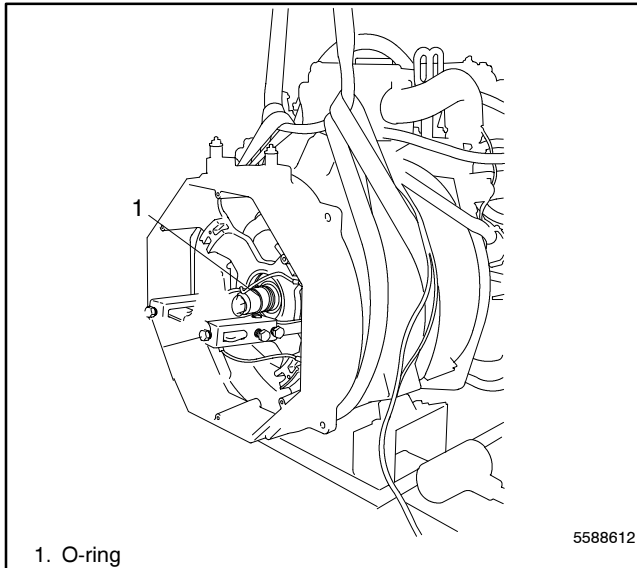

Figure 9-9 Stator Installation
4. Inspect the O-ring in the end bracket bearing bore and replace the O-ring if damaged. Use a sling to support the stator assembly while installing the stator over the rotor. Be careful not to damage the rotor. See Figure 9-9.